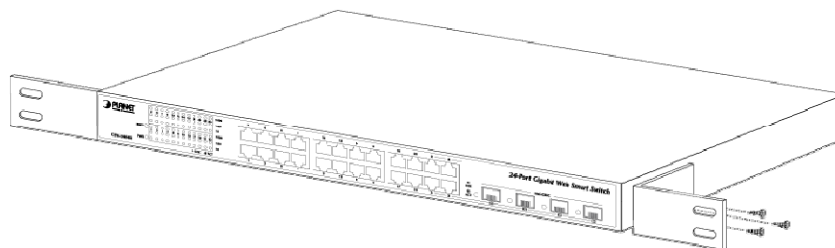

Figure 2-8 Attaching the brackets to the Switch
Step2: Attach a rack-mount bracket to each side of the Switch with supplied screws attached to the package. Figure 2-8 shows how to attach brackets to one side of the Switch.